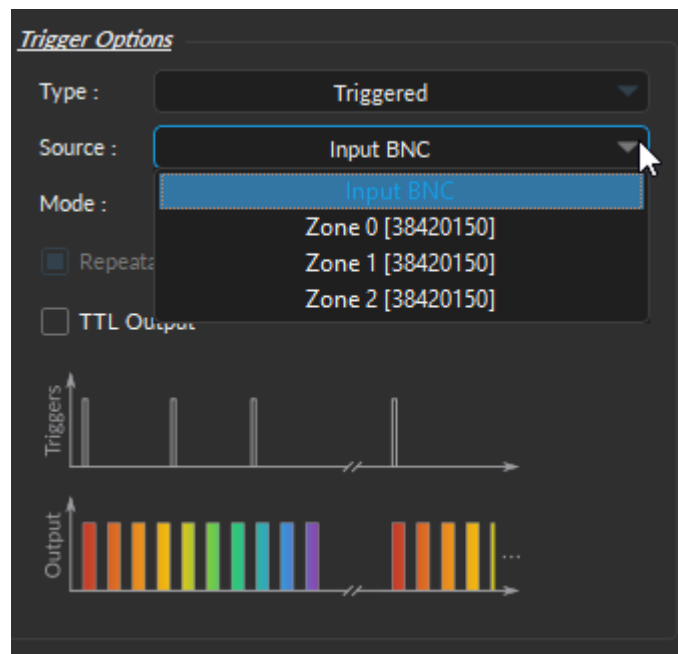

Figure 6.29: Triggerre Source
2. Once the zones are predefined, the **Source** (Fig. 6.29) drop-down box will automatically display all the zones; that can be chosen as the source of initiating output TTL pulses.